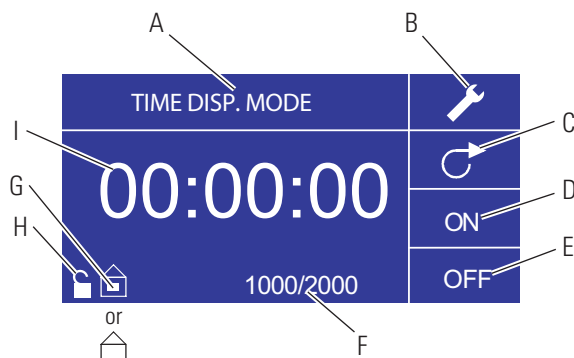

Figure 3-4. Time Dispense Mode Screen
- I. **Time Display:** The center digits show the remaining time of the drive in the ON or OFF Time highlighted on the right of the display (position D or E, Figure 3-4).
6. **Setting ON Time:** To set the ON Time, use the directional pad and ENTER key to select the ON field (see position D, Figure 3-4). Doing so will highlight the timer in the center of the screen (see position I, Figure 3-4). Pressing ENTER again, allows the timer to be set using the UP/DOWN arrows. Switch between digits using the LEFT/RIGHT arrows. Having selected an optimal ON Time, press ENTER again to validate. The drive will now run for the time appearing in the center of the screen.
7. **Setting OFF Time:** To set the OFF Time, use the directional pad and ENTER key to select the OFF field (see position E, Figure 3-4). Doing so will highlight the timer in the center of the screen (see position I, Figure 3-4). Pressing ENTER again, allows the timer to be set using the UP/DOWN arrows. Switch between digits using the LEFT/RIGHT arrows. Having selected an optimal OFF Time, press ENTER again to validate. The drive will stop running for the time appearing in the center of the screen. **NOTE:** If the OFF Time is set to 00:00:00, the drive requires a **START/STOP input** from the keypad or the remote I/O Connector to start the next dispense.
8. **Selecting Batch Size:** Before running the drive at the selected ON/OFF Times, select a batch size for the operation. To do so, use the directional pad and the ENTER key to select the BATCH icon (see position F, Figure 3-4). In the Batch Count screen, press the ENTER key and then use the UP/DOWN arrows on the directional pad to select a batch size. Switch between digits using the LEFT/RIGHT arrows. Press ENTER one more time to validate the selected batch size. When set to zero (0) the drive will run for an infinite number of cycles and the ∞ symbol is displayed. Use the directional pad to select EXIT to return to the Time Dispense Operation Screen.
10. **Resetting Batch:** To reset a batch, use the directional pad and the ENTER key to select the BATCH icon (see position F, Figure 3-4). In the Batch Count screen, use directional pad to select RESET and press the ENTER key to reset the batch count, select EXIT to return to the main Time Dispense Mode operation screen.